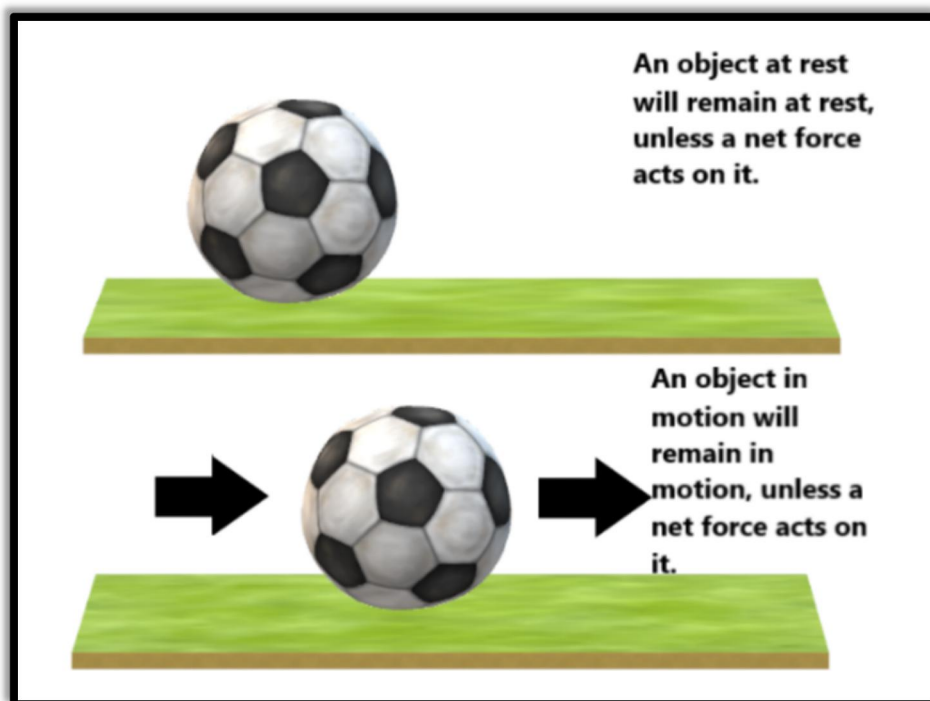

Figure 2.9 An example of Newton's First Law
- Figure 2.9** shows an example of Newton's First Law.